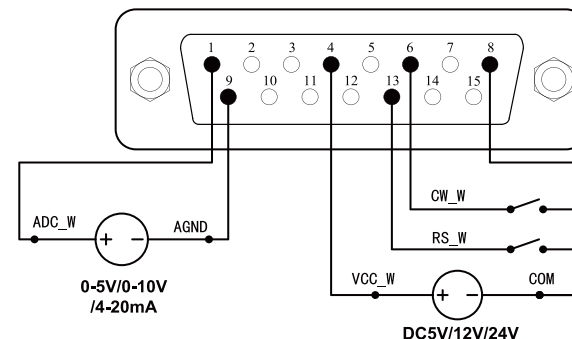
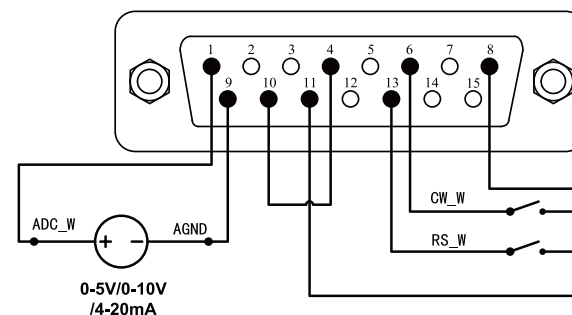

Figure 51 Wiring Diagram for Connecting External Power Supply in External Control Mode
Figure 52 Wiring Diagram for Connecting Internal Power Supply in External Control Mode
- When the power is cut off, connect the circuit according to figure 52 or figure 51, and connect the DB15 interface to the back interface of the pump.